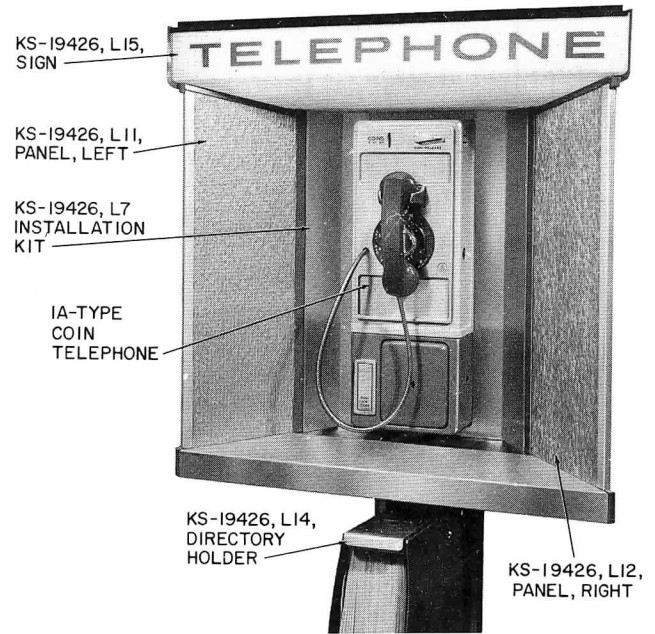

Fig. 10 — KS-19426 Mounting, Using 1A-Type Coin Telephone Set
3.03 The 1A-type coin telephone set may be used with KS-19426 mounting but requires a List 7 installation kit. This kit consists of mounting screws, left and right side shrouds, and associated brackets. See Fig. 10.